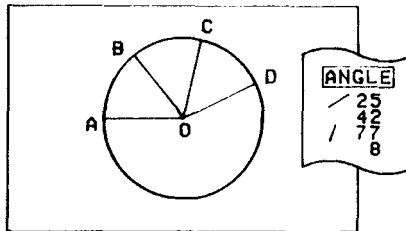

Fig 5
- 13 **Draw the radial (OD) as in Fig 5, then switch off ANGLE.**
- 14 **Repeat for (OE), (OF) and (OG). Use X vernier for (OE), and Y vernier for (OF), (OG).**